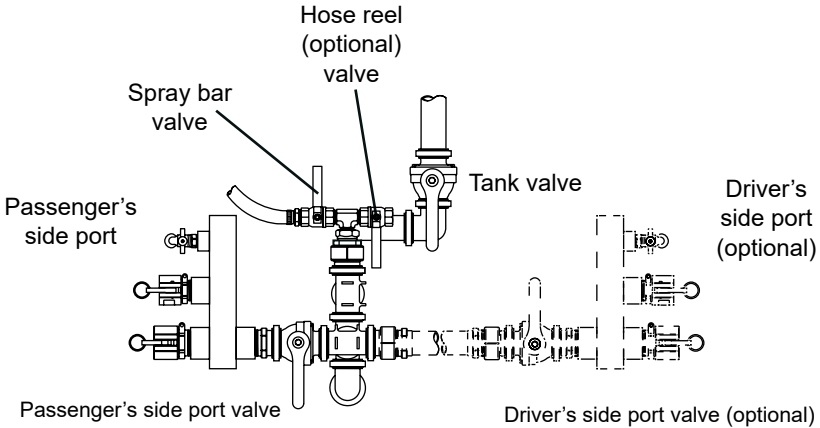

Fig. 3
Above the pump is a horizontal manifold (Fig. 3) that contains two valves (spray bar valve and the passenger's port side valve). See USING THE SPRAY BAR or USING THE SIDE PORT, to determine which valve to use. Below the horizontal manifold is the tank valve.
5. Move the tank valve to OPEN (Fig. 3).
7. Make sure the spray bar and side port valves are CLOSED (Figs. 3 & 4).
1. Move the tank valve to OPEN (Fig. 3).
4. Make sure the spray bar and side port valves are closed (Figs. 3 & 4).